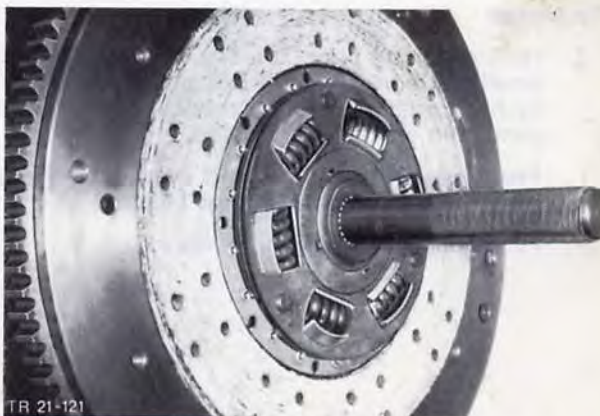

Fig. 159. Centralise clutch disc using Special Tool 21-044
6. Centralise clutch pressure plate and clutch disc using Special Tool 21-044, Fig. 159 and torque as specified in Technical Data.